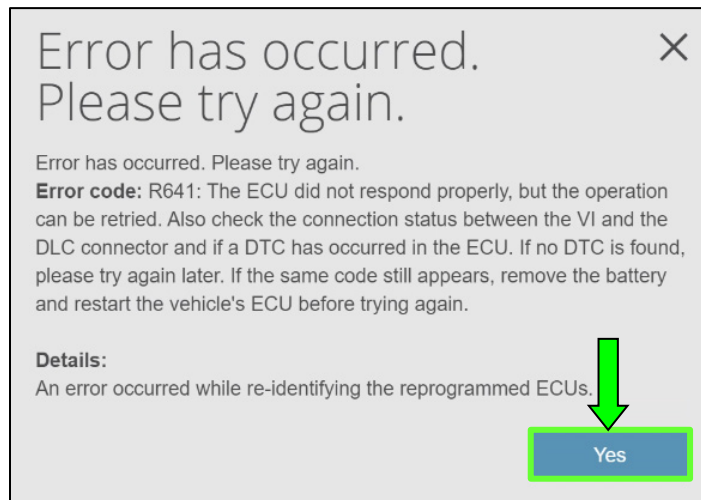

Figure 28
31. If the Error code R641 appears (Figure 28), select **Yes** and then continue to step 32.